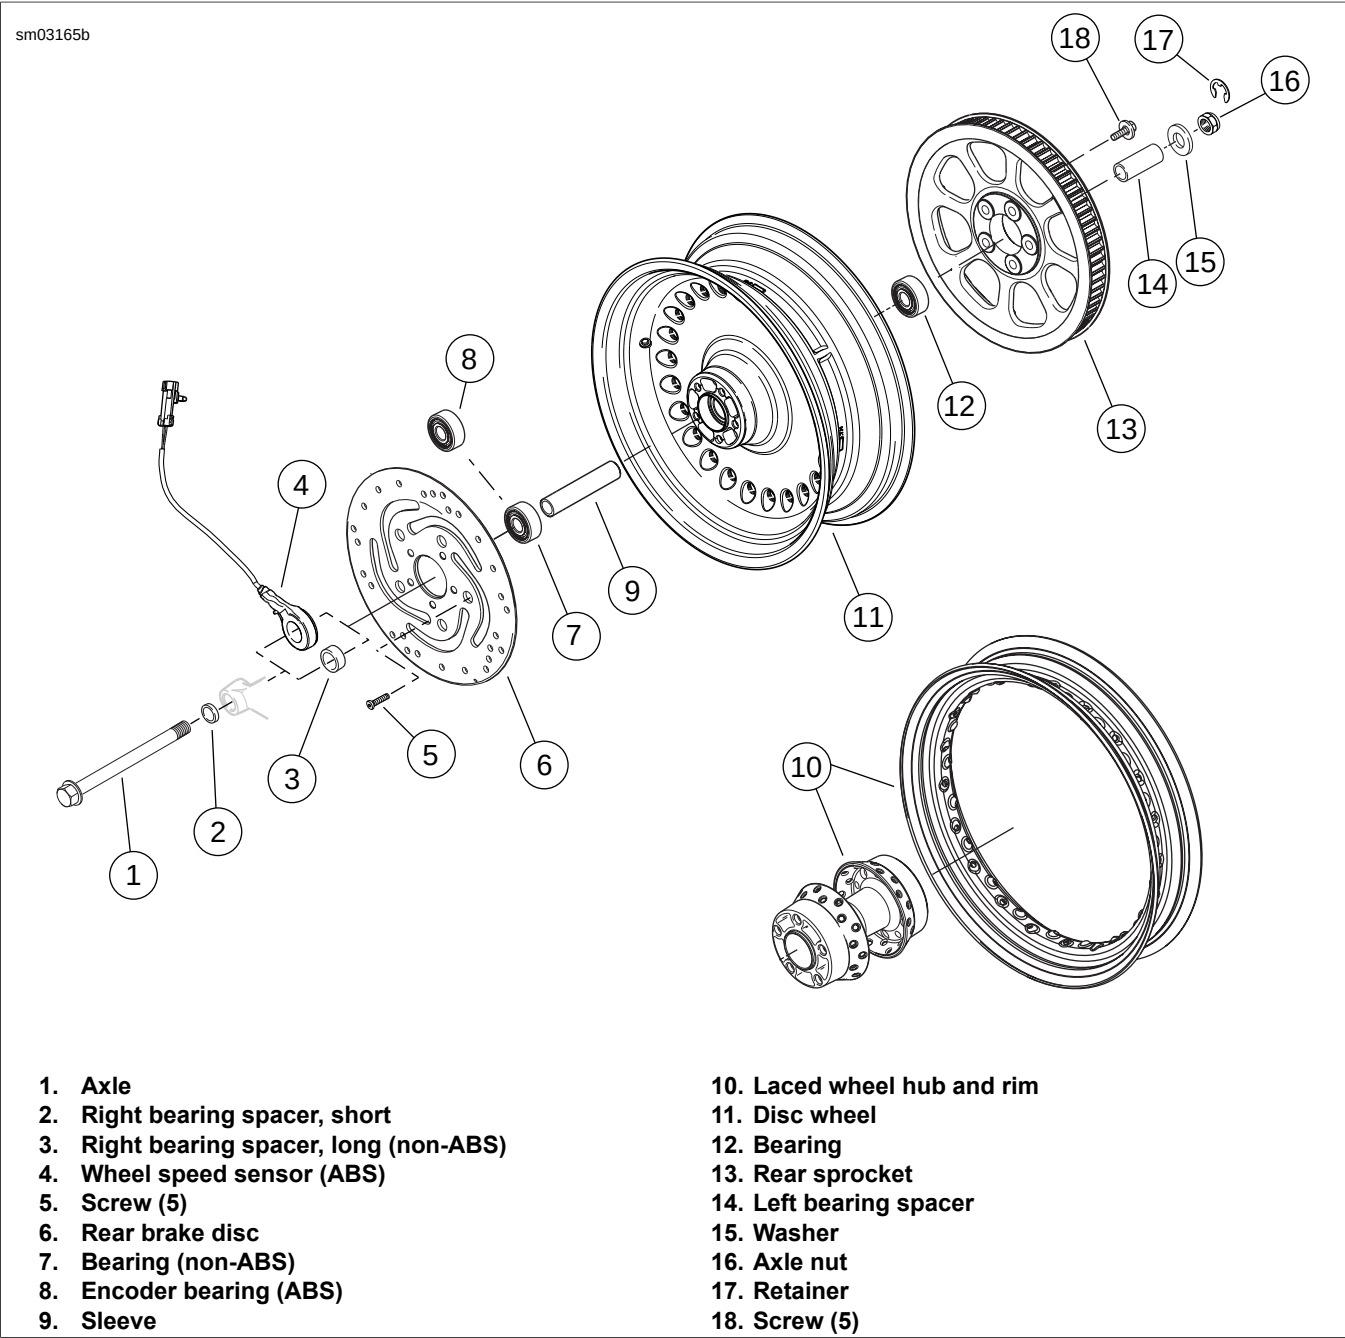

Figure 2-10. Rear Wheel/Hub (typical)
1. See Figure 2-10. If laced wheel (10) was disassembled, see 2.6 WHEEL LACING.
1. See Figure 2-10. Apply a light coat of ANTI-SEIZE LUBRICANT to the axle (1), bearing bores, and the bore of the inner sleeve (9).
3. Position left bearing spacer (14) between wheel and fork.
4. From right side, carefully insert axle through right rear fork, short spacer (3), rear caliper mounting bracket, wheel speed sensor (4) (if ABS equipped) or long spacer (3) and into bearing bore.